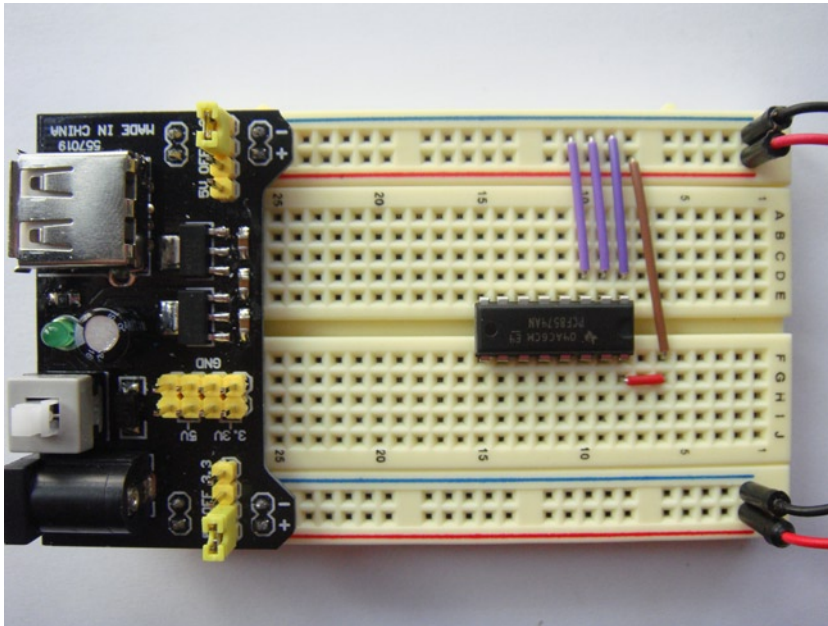

Figure 4-14. Power source added to the breadboard
3. Let's move on from the address selection pins. You can see that I have connected pin 16 to the 3.3-V Vcc on the breadboard. Next up in Figure 4-14 I have added my power source and connected the hook-up wire to the 3.3-V source for the LCD logic and the 5-V source for the LCD backlight. In Figure 4-14 the power rails closest to the USB port are set to 3.3 V and the rails on the other side are set to 5 V.